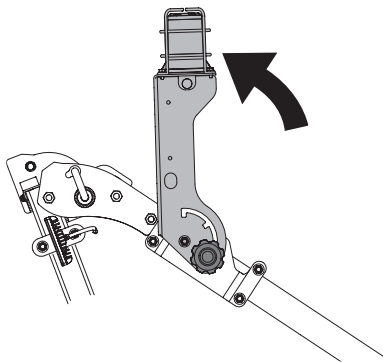
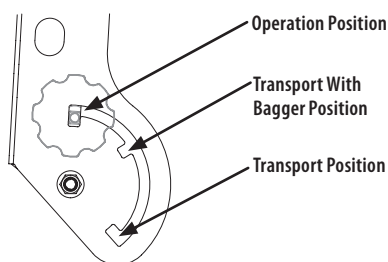

Figure 26
Figure 27
3. Rotate the assembly to face the beacon light straight upward. See Figure 26.
NOTE: In Figure 26 the ROPS is shown in Transport Position. Take note of the settings used for the different beacon light positions. See Figure 27.